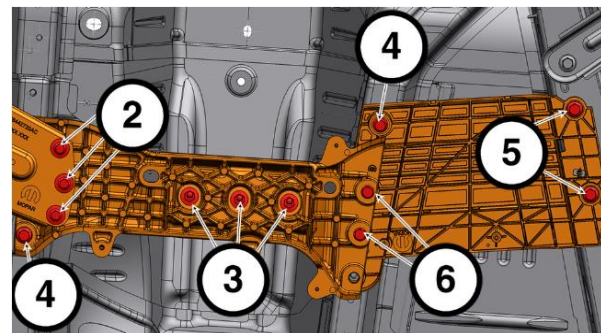

Figure 6 - Callout
14. Reinstall the transmission crossmember and the impact brace to body bracket and tighten the crossmember bolts to 62.5Nm (84ft. lbs.) and tighten the impact brace to body fasteners to 47.5N·m (35ft. lbs.) (Figure 6).